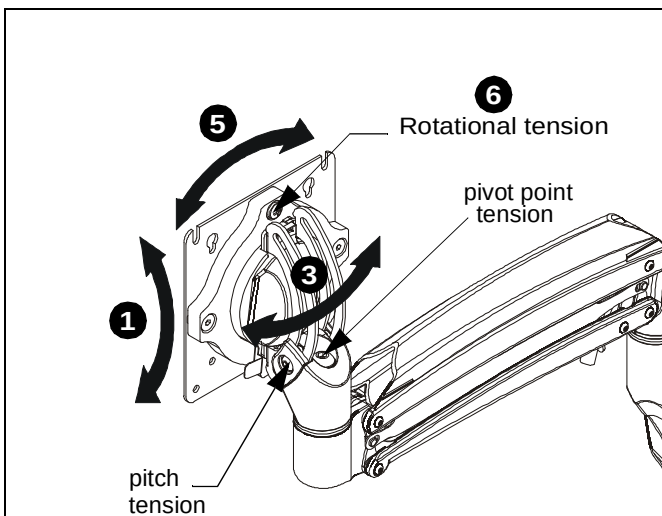

Figure 14
- Adjust pitch to desired tilt position. (See Figure 14)
- Adjust pitch tension screw to change the adjustment tension. (See Figure 14)
- Adjust pivot position as desired. (See Figure 14)
- Use 3/16" hex key (K) to adjust pivot point tension screws to change pivot adjustment tension. (See Figure 14)
- The monitor may be adjusted 90 degrees in either direction in order to provide a portrait view of the monitor. (See Figure 14)
- Use 3/16" hex key (K) to adjust rotational adjustment screw to adjust rotational tension. (See Figure 14)